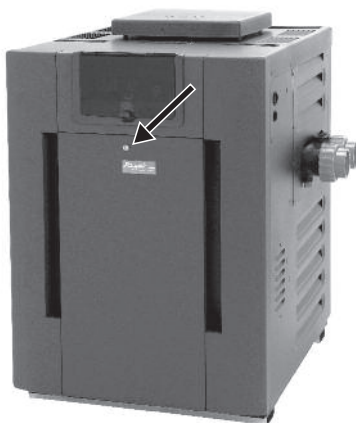

Fig 1
Changes to: Parts photos on page 3, dimensional illustration on page 4, Fig. 1 and Fig. 3 on page 5, Illustrated Parts List on page 19
2. Remove the front door from the heater. See Fig 1.
23. Place the front door back onto the heater. Refer to Fig. 1.